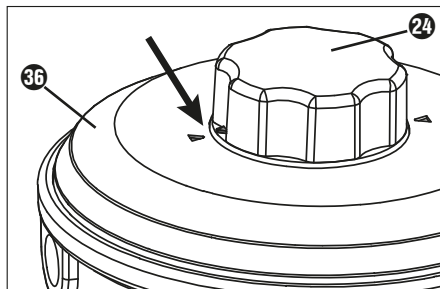

Fig. 1
- ◆ Snap both battery packs **43** into the motor block **1** (see Fig. 1).
- 1) Make sure that the two arrows on the cover **36** and on the rotary knob **24** of the line spool **23** point towards each other (see Fig. 1). This ensures that the line can be threaded directly into the line channel of the spool **38**.
Before using the device, insert **both** batteries (see Fig. 1) and attach the harness **48**.